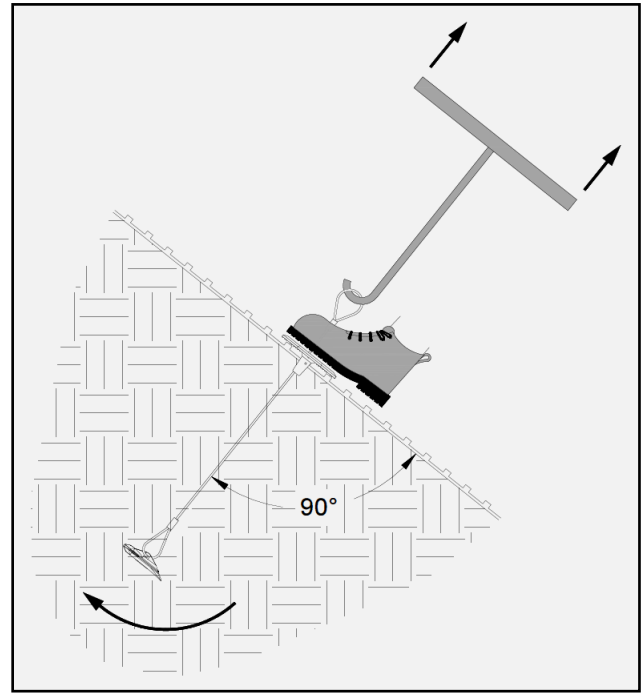

Figure 10: Use Setting Tool to Set Anchor
5. Once the plate is close to the channel surface, stand on the anchor plate and insert the setting tool into the loop at the top of the anchor tendon, keeping the anchor tendon perpendicular to the channel surface. (Figure 10) With gentle force, slowly start to pull upwards - away from the channel surface - causing the anchor tendon to start to move out of the ground (displace). During this step, the anchor head will turn in the ground - a process known as “anchor setting”. The change in embedment depth to set a Type B1 Anchor is approximately 2 inches. When the anchor is set, there will be a noticeable change in the amount of force needed to displace the anchor any further. This is a good indication that the anchor head is now perpendicular to the anchor tendon and the anchor is ready to be load-locked.